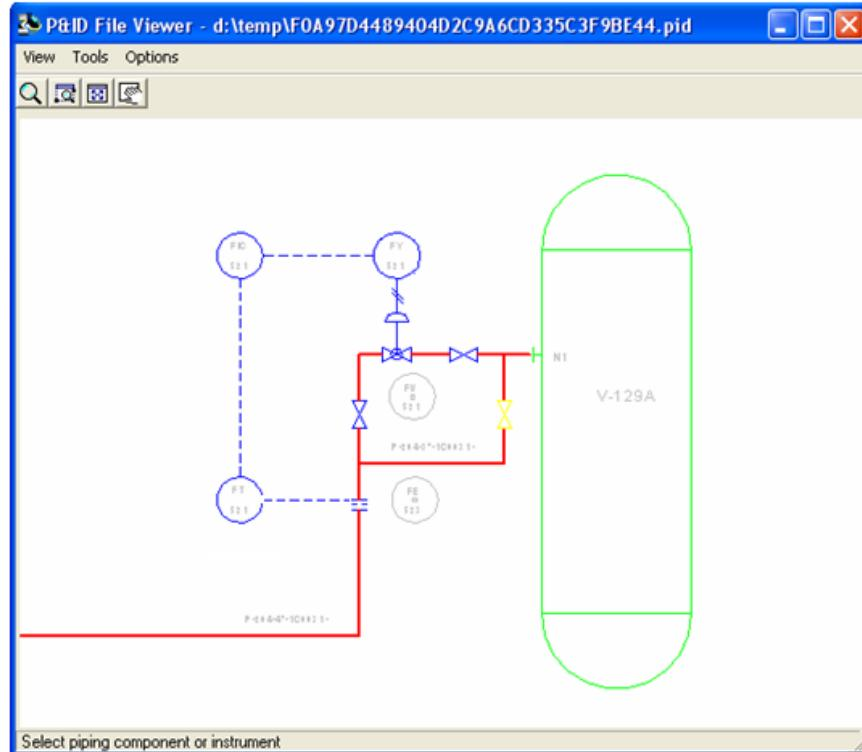

Figure 38: Selected Gate Valve
19. In the **P&ID File Viewer** window, select the gate valve located in the bypass line, as shown in Figure 38.